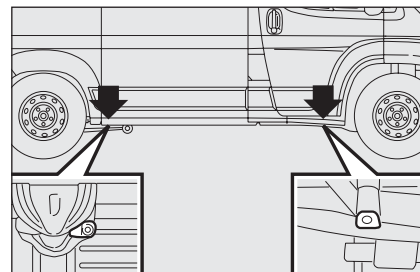

fig. 3
- ☐ set the jack near the lifting support close to the wheel to change in the points shown in **fig. 3**.